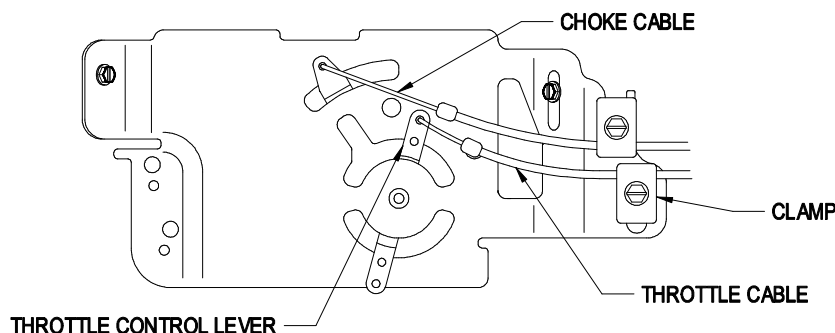

FIGURE 4
- g) Attach inner wire of the throttle cable to the top hole in the throttle control lever as shown in Figure 4.